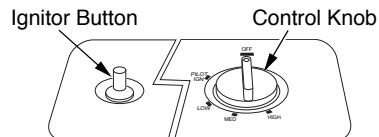

Figure 19 - Control Knob In The OFF Position
4. Wait five (5) minutes to clear out any gas. Then smell for gas around heater and near the floor. If you smell gas, **STOP!** Follow "B" in the safety information above. If you don't smell gas, go to the next step.
5. Press in control knob and turn counterclockwise ↻ to the PILOT position. Keep control knob pressed in for five (5) seconds (see Figure 19).